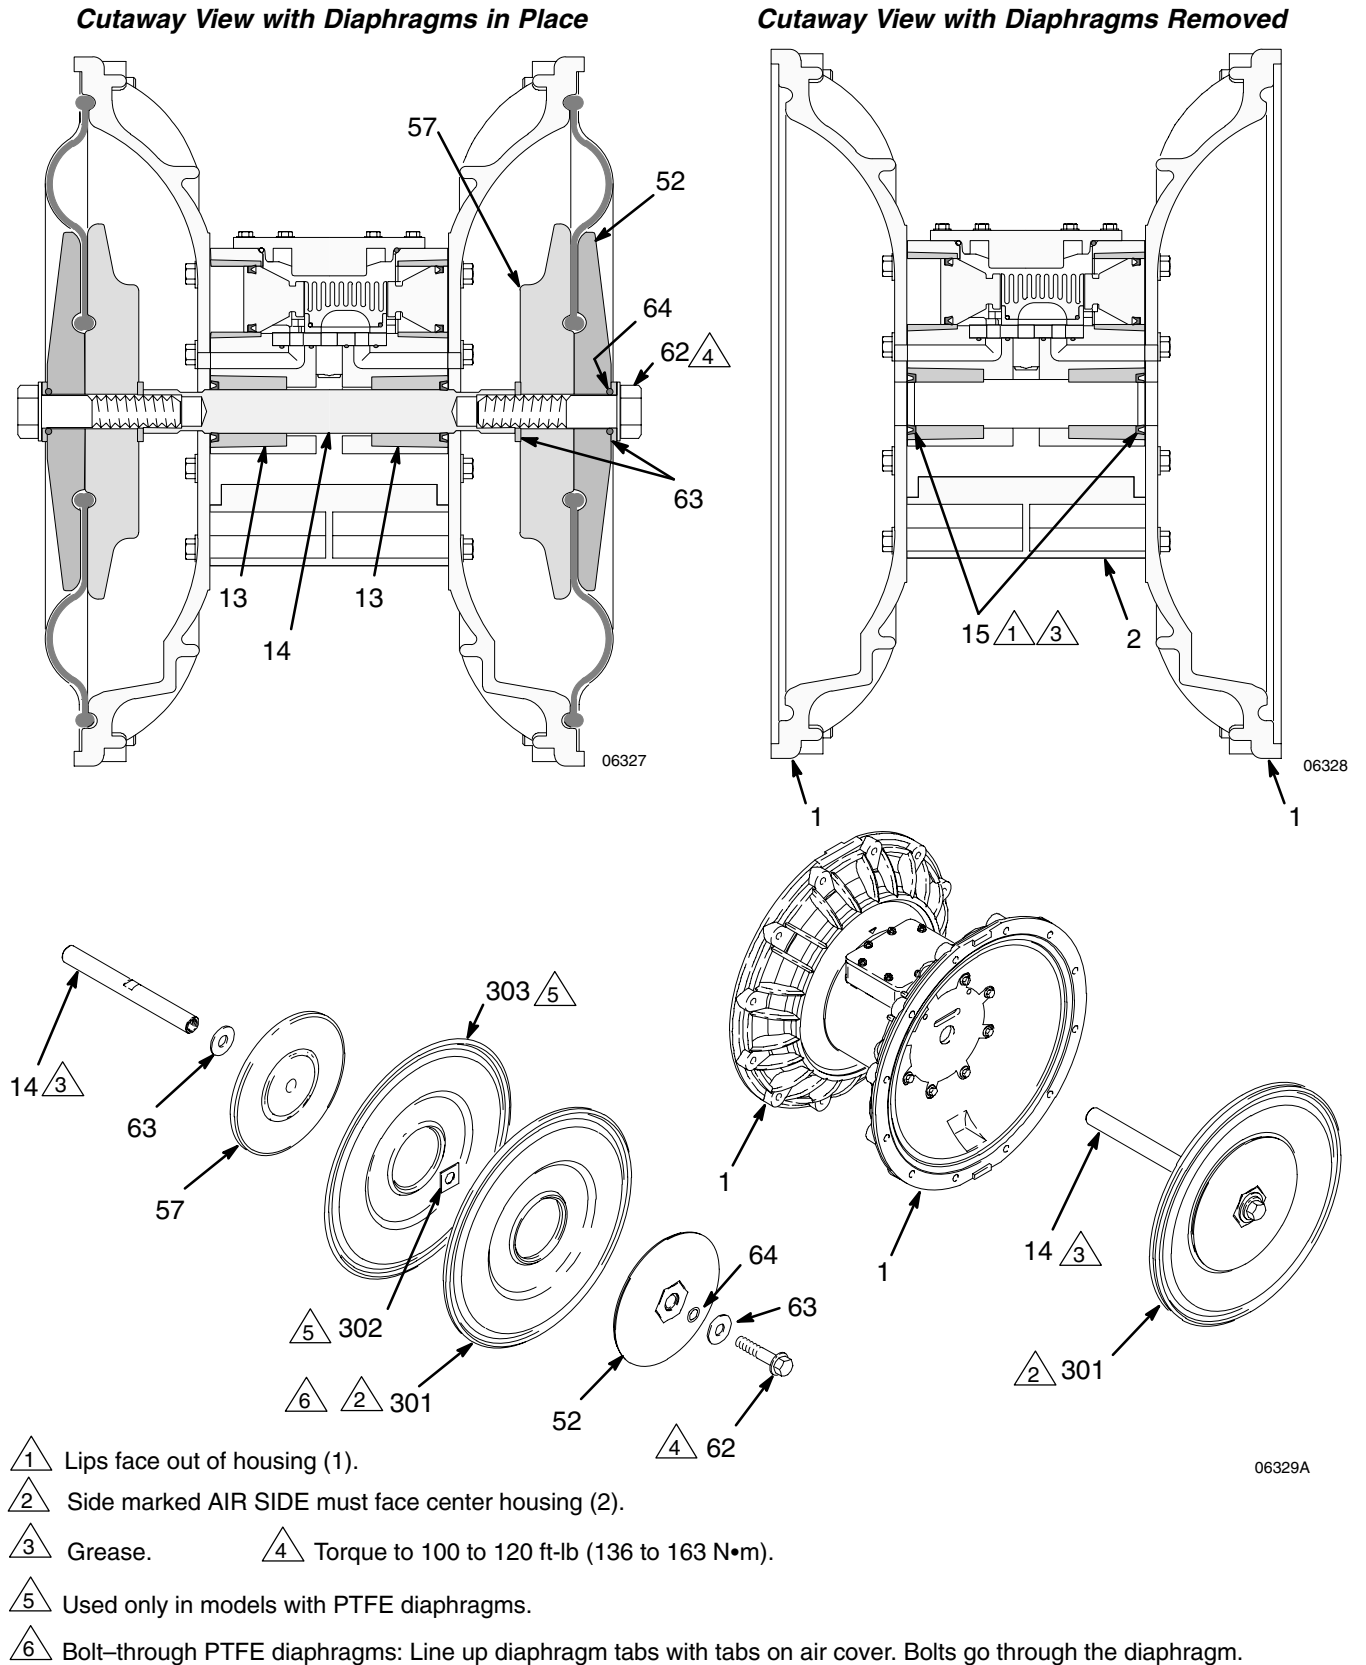

Fig. 8
For steps 4 to 9, see Fig. 8.
Reassembly (See Fig. 8)
1. Install each u-cup seal (15) so the lips face away from the center of the pump. Lubricate the u-cup seals.
2. Install a diaphragm assembly on one end of the shaft (14) as follows:
- a. Place a washer (63) and then a white o-ring (64) on the diaphragm bolt (62). The o-ring may fit very snugly on the bolt. Insert the bolt into the fluid-side diaphragm plate (52) as shown in Fig. 8. Grease the bolt threads.
- b. Lay the diaphragm (301) into the grooves on the fluid-side diaphragm plate (52) so that the side marked AIR SIDE faces the center of the pump.
For models with bolt-through PTFE diaphragms, also install the shim (302) and back-up diaphragm (303), as shown in Fig. 8. Line up diaphragm tabs with tabs on air cover. The bolts must go through the bolt-through PTFE diaphragm.
- c. Place the air-side diaphragm plate (57) and washer (63) over the bolt. Screw the shaft (14) onto the bolt handtight.
3. Grease the length of the shaft (14), and slide it through the center housing (2).
5. Torque the bolts (62) to 100 to 120 ft-lb (136 to 163 N•m).
1. Insert the bearings (8, 13, and 17) into the housing (2), **tapered end first**. Using a press or a block and mallet, press-fit each bearing so it is flush with the surface of the housing.
3. Install the u-cup shaft seals (15) with the lips facing away from the bearing (13). See Fig. 8.
4. Align each new air cover gasket (10) so the push pin (18) protruding from the center housing (2) fits through the proper hole (H) in the gasket, as shown in Fig. 8.
5. Align each air cover (1) so the through hole is on the bottom, as shown in Fig. 8. Install the screws (27) handtight. Using a 13-mm socket, torque the screws oppositely and evenly to 19 to 21 ft-lb (26 to 28 N•m).